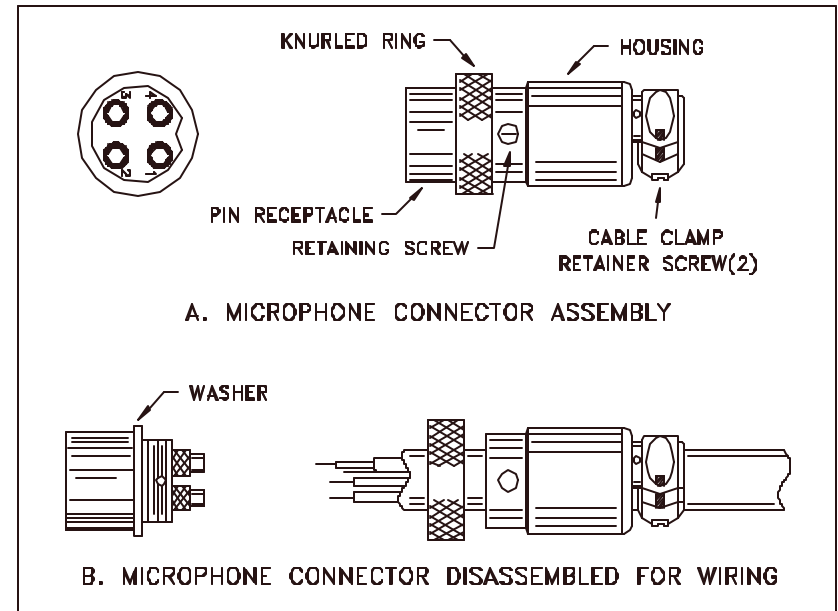

Fig. 4 Microphone plug wiring
4. Feed the microphone cable through the housing, knurled ring and washer as shown Fig. 4.
Be sure that the housing and the knurled ring of Fig. 4 are pushed back onto the microphone cable before starting to solder. If the washer is not captive to the pin receptacle body, make sure that it is placed on the threaded portion of the pin receptacle body before soldering.